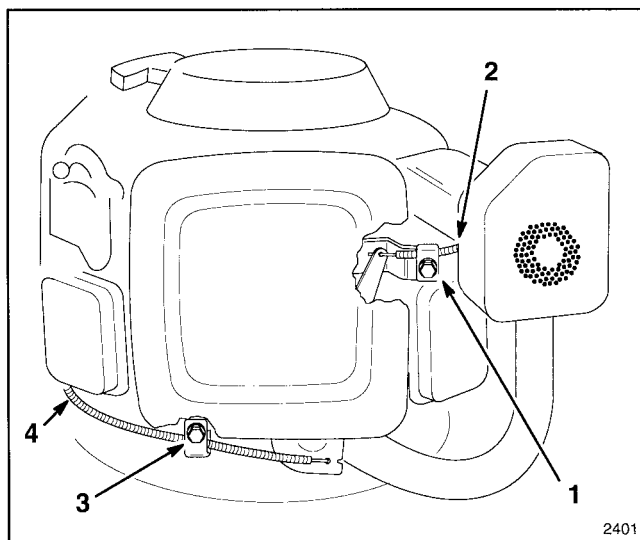

Figure 18
2. Loosen cable clamp screw until choke cable is loose (Fig. 18).
1. Loosen the cable clamp screw until the throttle cable is loose (Fig. 18).